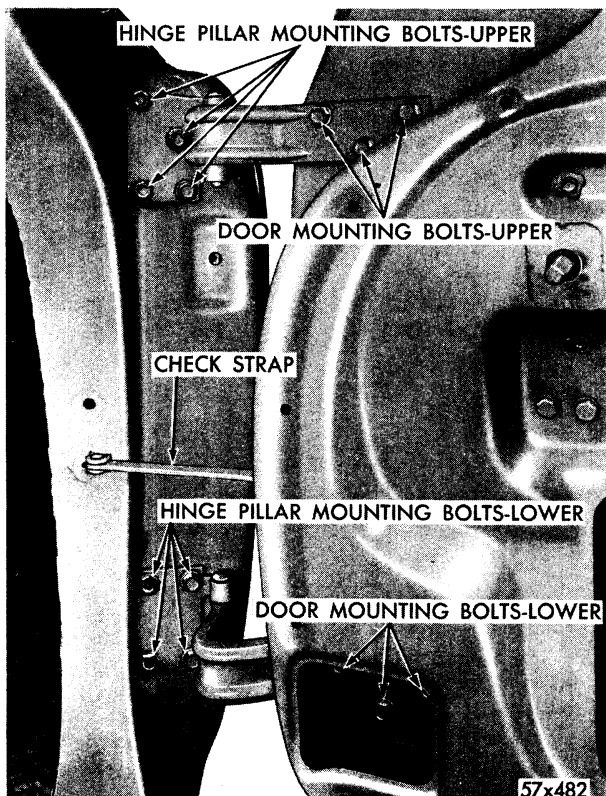

Fig. 13—Front Door Hinge Assembly
a. To Raise or Lower Door (Front Doors) (Fig. 13)